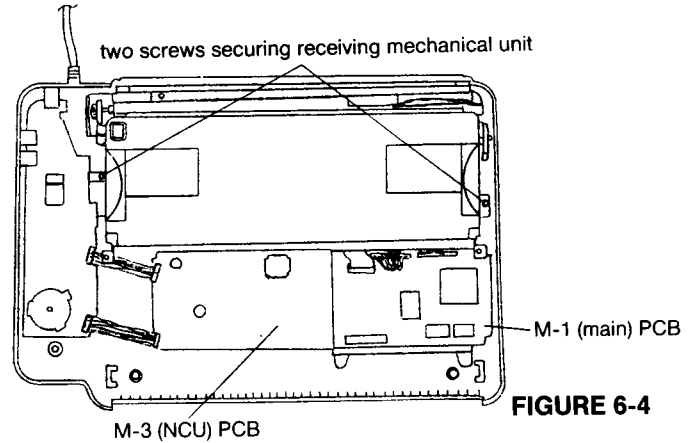
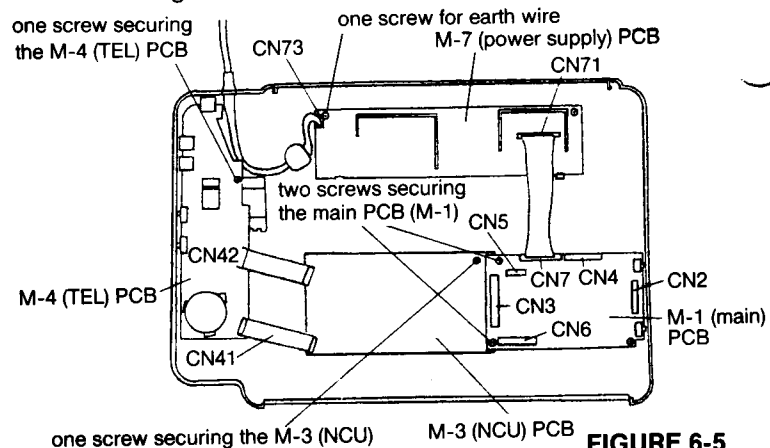
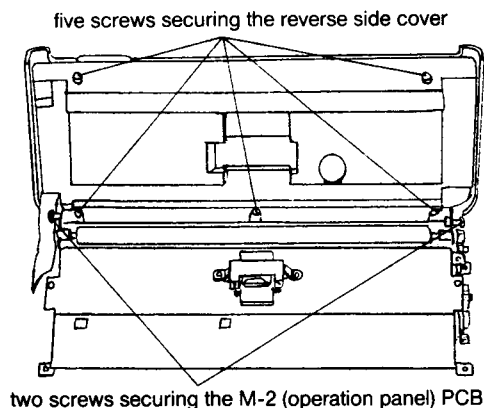

FIGURE 6-4
FIGURE 6-5
FIGURE 6-6
- Disconnect the connectors CN2 and CN6 on the main PCB (M-1) while lifting up the transmission mechanical unit. (See figure 6-5)
(3) Removal of the receiving mechanical unit
- Remove two screws securing the receiving mechanical unit. (See figure 6-4)
- Disconnect the connector CN5 and CN7 on the main PCB (M-1). (See figure 6-5)
(4) Removal of the main PCB (M-1).
- Remove the cabinet and the transmission mechanical unit. (Refer to the procedure 6-1-(1) and 6-1-(2))
- Disconnect the connectors CN4, CN5 and CN7 on the main PCB (M-1). (See figure 6-5)
- Remove two screws securing the main PCB (M-1). (See figure 6-5)
(5) Removal of the M-3 (NCU) PCB.
- Remove one screw securing the M-3 (NCU). (See figure 6-5)
- Disconnect the connectors CN41 and CN42. (See figure 6-5)
- (6) Removal of the M-7 (Power Supply) PCB.
- Remove the cabinet, transmission mechanical unit and receiving mechanical unit. (Refer to the procedure 6-1-(1), 6-1-(2) and 6-1-(3))
- Disconnect the connectors CN71 and CN73. (See figure 6-5)
- Remove the M-4 (TEL)PCB and one screw for earth wire coming from the M-7 (Power Supply) PCB. (See figure 6-5)
- (7) Removal of M-4 (TEL) PCB.
- Disconnect the connectors CN41 and CN42 on the M-4 (TEL) PCB. (See figure 6-5)
- Remove one screw securing the M-4 (TEL) PCB. (See figure 6-5)
- (8) Removal of M-2 (Operation Panel) PCB and LCD.
- Remove the cabinet and Transmission mechanical unit. (Refer to the procedure 6-1-(1) and 6-1-(2))
- Remove two screws securing the M-2 (Operation Panel) PCB. (See figure 6-6)
- Remove five screws securing the reverse side cover. (See figure 6-6)